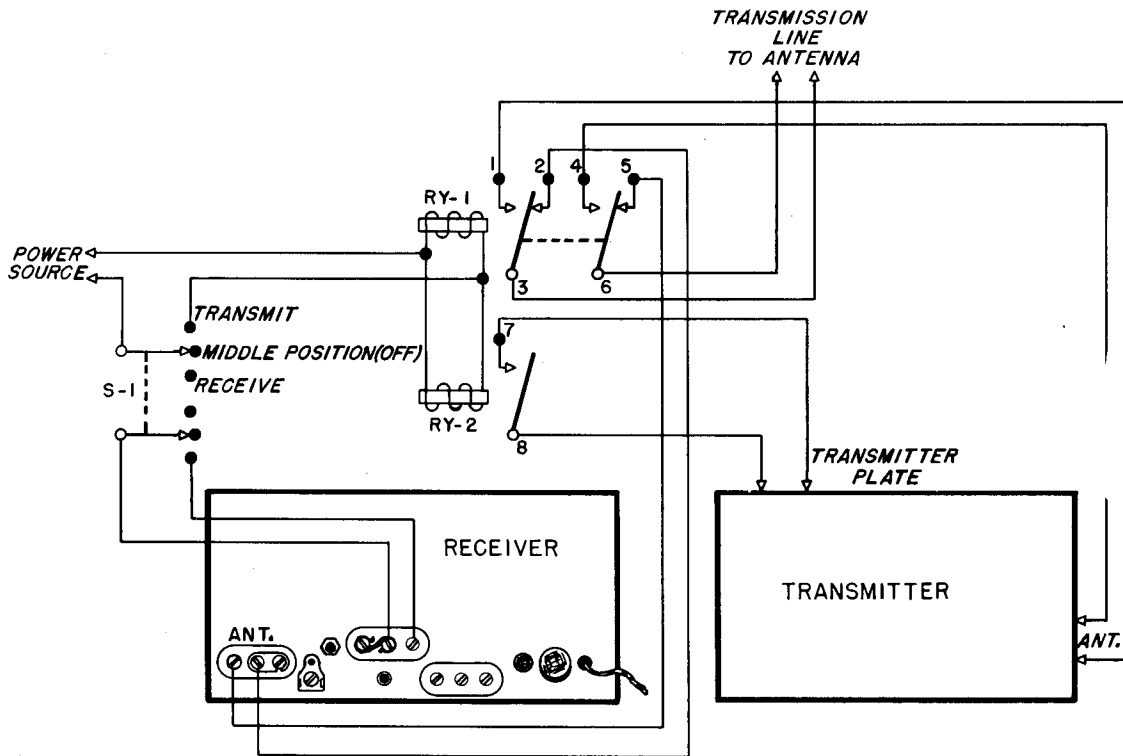

Figure No. 5. Typical Antenna Switching System
A double-pole, double-throw relay possessing good high-frequency insulation is suitable. A second relay and a three position switch may be used to control the transmitter plate supply and the B+ circuits. This second relay should be a single-pole, single-throw type having one normally open pair of contacts. The schematic diagram of this type of control circuit is shown in Figure No. 5. With S-1 in the receive position the antenna transmission line is connected to the receiver by contacts 2, 3, 5 and 6 of relay RY-1; the B+ circuit of the receiver is completed by the switch. (The St'by-Rec. switch on the receiver should be set at St'by). With the switch in the transmit position RY-1 contacts 1, 3, 4 and 6 are closed transferring the antenna transmission line to the transmitter; contacts 7 and 8 of relay RY-2 close to complete the plate supply circuit to the transmitter. Contacts 7 and 8 of relay RY-2 should be in series with the primary of the transmitter plate supply transformer. Thus, the station is in the receiving condition with switch S-1 in the receive position and in the transmitting condition with S-1 in the transmit position. With S-1 in the mid-position the receiver B+ circuit and transmitter plate supply circuit are both open. In the mid-position the receiver B+ circuit is controlled by the St'by-Rec. switch on the front panel of the receiver.
- (1) Seat the A.C. jumper plug and all tubes firmly in their sockets.
- (2) Connect the loudspeaker to the 8-ohm terminals of the audio output terminal strip at the rear of the receiver. Access to the terminal strip is gained by removal of the metal shield cover. This cover should be replaced after completion of the connections. A 500-ohm connection is provided if it is desired to connect to a 500-ohm line.
- (3) Connect a good external ground to the screw-type lug located at the rear of the receiver below the antenna terminal strip.
- (4) Connect the antenna as recommended in paragraph 2-2.
- (5) The St'by-Rec. switch terminal panel at the rear of the receiver is provided for convenience in connecting an external B plus switch or relay. The panel is so arranged that either a series or a parallel connection may be made. Figure No. 5 illustrates a typical parallel connection. In the example shown the jumper is connected across terminals 1 and 2 and the external switch is connected to terminals 2 and 3. For a series arrangement, the jumper is removed and the switch is connected to terminals 1 and 2. The essential difference between the two types of connections is that with the parallel type the St'by-Rec. switch on the receiver is operative while in the series type the St'by-Rec. switch is inoperative.
- (6) Connect the power cord to a 115 volt, 50/60 cycle A.C. source of supply. In installations where the source is 220/240 volts a few changes are required to convert the NC-183D to accept this supply. These changes are made directly on the power transformer terminal lugs and are as follows:
- (7) Set the controls as recommended in Section 3 for reception of signals.